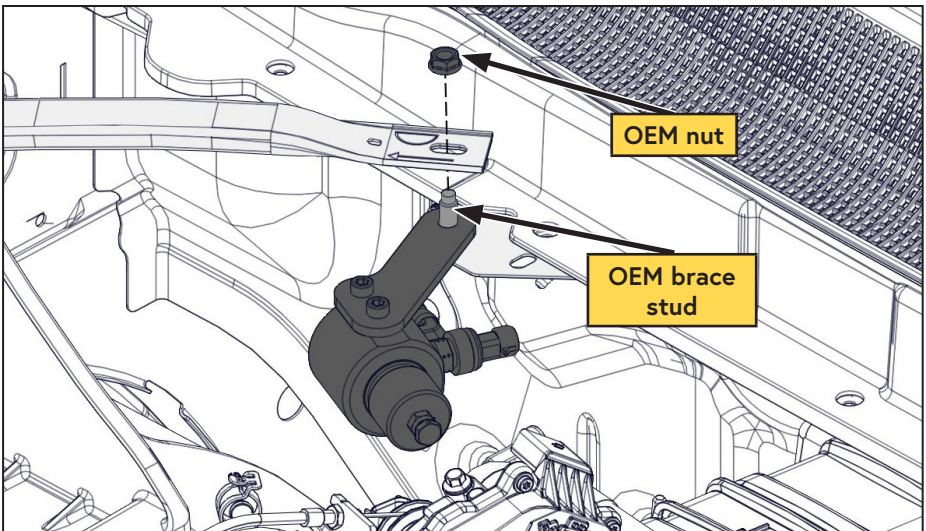

Figure 51 — Install regulator
- ☐ Gently lift the brace and install the regulator assembly onto the OEM stud (Figure 51).
- ☐ Reinstall the brace and secure it using the OEM nut retained earlier (Figure 51).